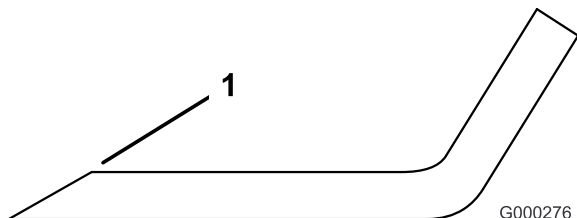

Figure 95
1. Use a file to sharpen the cutting edge at both ends of the blade (Figure 95).